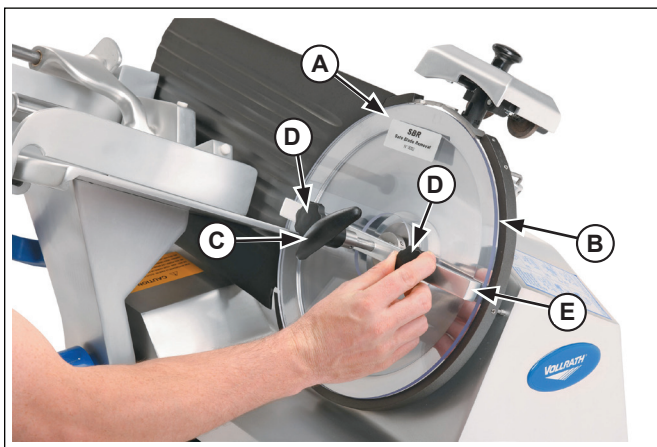

Figure 5. Safe Blade Removal Tool and Blade
3. Lift the knob (C) and sharpening assembly to the “UP” position.
4. Set the safe blade removal tool (A) onto the blade (B) aligning with center blade hole.
5. Screw the two knobs (D) into the corresponding holes on the blade (B) and tighten the knobs (D). See Figure 5.
13. Tighten the blade (B).
14. Unscrew the two knobs (D) while holding the cross bar (E). See Figure 5.